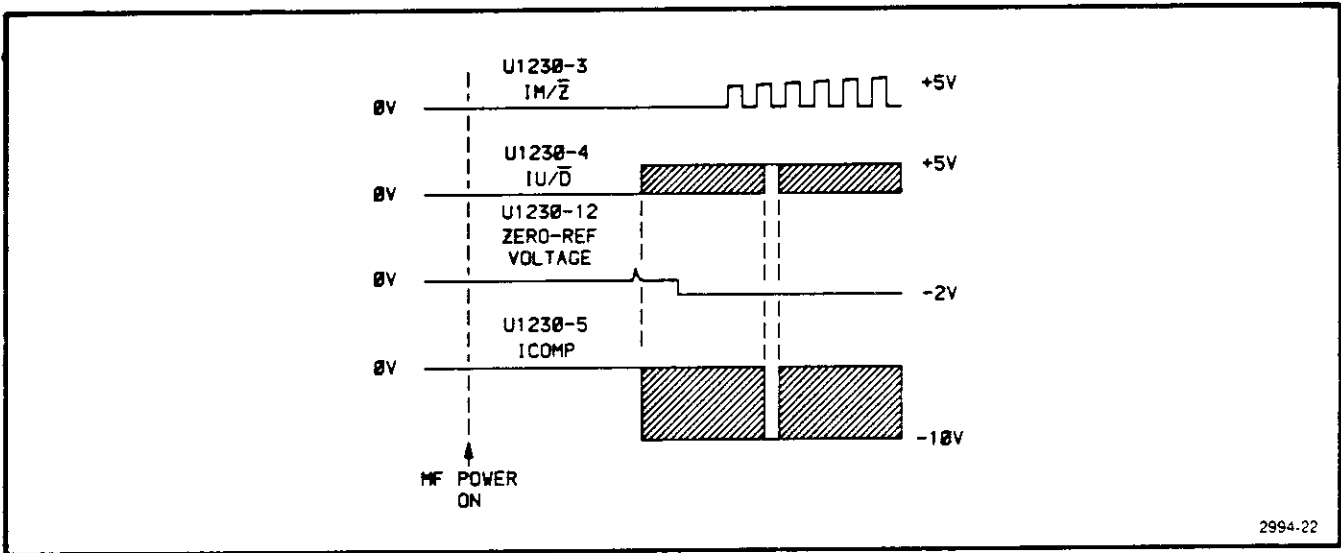

Fig. 7-7. I M/Z, I U/D, ICOMP and the zero-reference voltage waveforms after power on.
b. Set the DM 5010 to the power-on settings and check the waveforms in Fig. 7-7 at the locations given. If the waveforms are incorrect, check the components or troubleshooting procedure listed in Table 7-7 for the indicated system.